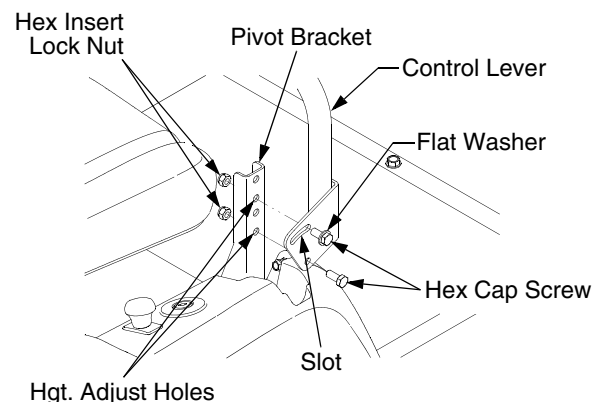

Figure 19
- Remove the two hex insert lock nuts from the hex cap screws securing the control lever to the control pivot bracket. Refer to Figure 19.
- Loosen, but do not remove, the two hex insert lock nuts and hex cap screws securing the control lever to the control pivot bracket. Refer to Figure 19.